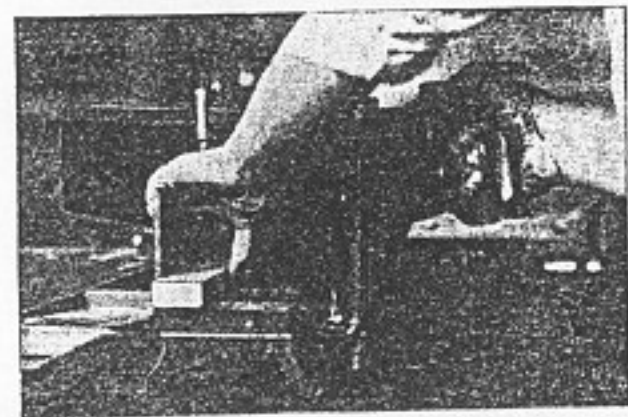
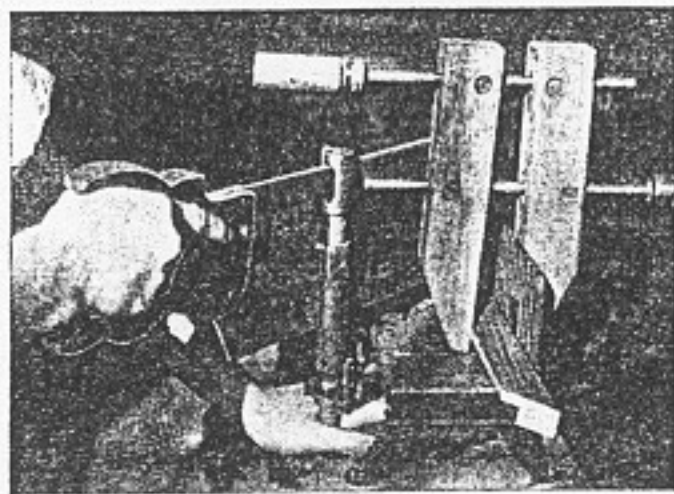

Fig. 226. Sawing picture-frame molding in miter box.
Fig. 227. Sawing picture-frame molding in miter box. Molding clamped to side of box with a hand screw.
carriage is set to 45 deg. on the left side of the graduated arc, the back of the molding is held against the vertical side of the box with the left hand, the saw is grasped with the right hand, and a small piece is sawed off the end of the molding. The rabbeted side of the molding always should be toward the worker while cutting in the miter box (Fig. 226). It is very important to hold the molding firmly while sawing. If it cannot be held by hand, it may be clamped to the sides of the miter box with a hand screw (Fig. 227).
6. The saw carriage now is moved over to the 45-deg. mark on the right side of the quadrant. The back of the molding is held against the side of the box, and it is sawed on the waste side of the line marked. Short pieces of molding should be clamped to the side of the box, because it is awkward to hold them with the left hand when the saw is at the right end of the miter box (Fig. 227).